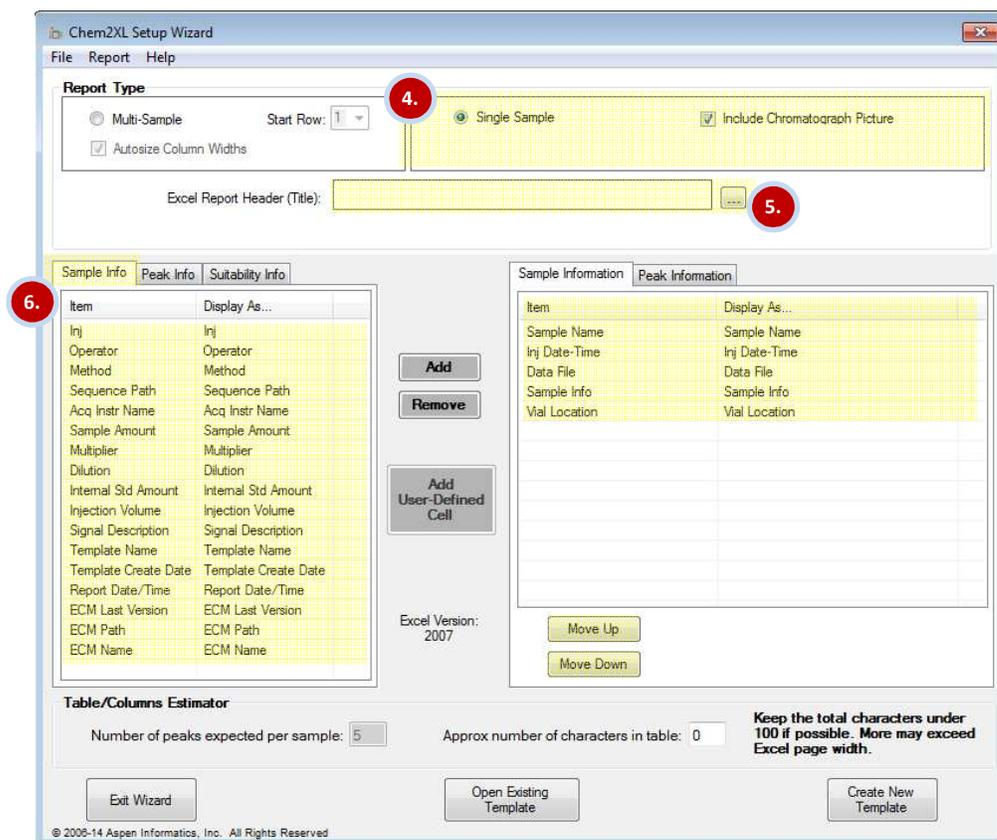

Figure 3.3 Template Setup Wizard
- For Single Sample Report, click *Single Sample* and *Include Chromatogram Picture* if desired (see #4 on Figure 3.3).
- (optional) Enter the title that will appear at the top of the Excel Report. Click the box to change the font/size for the Excel Header (see #5 on Figure 3.3)
- From the Sample Info tab (see #6 on Figure 3.3), choose items to appear on Report Header Section. Click each item desired on the left then click Add (or simply double-click the item). The item will then appear in the Sample Information tab to the right and will now be utilized in the template. If an item is no longer desired, click on the item on the right and then click Remove (or double-click the item to remove it). Items in the Sample information and Peak Information sections will be placed onto the report template in the order of selection. The order of Items may be changed by selecting the item and choosing *Move Up* or *Move Down*. You may also choose *Add User Defined Cell* while the Peak Info tab is selected (see #8 on page 9 for more information)